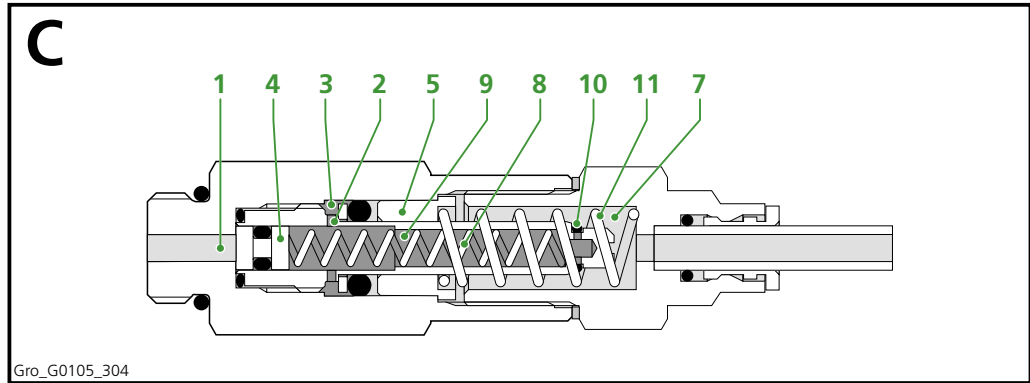

Figure 3.5 Phase C, metering unit during phase C
When the pump stops and the grease pressure disappears, spring (8) pushes plunger (4) back, to block channel (1) (Figure 3.5). O-ring (10) prevents the grease in chamber (7) from being sucked back into the chamber. Spring (11) pushes plunger (5) back, so that the grease in chamber (3) is transferred to chamber (9), through channel (2).